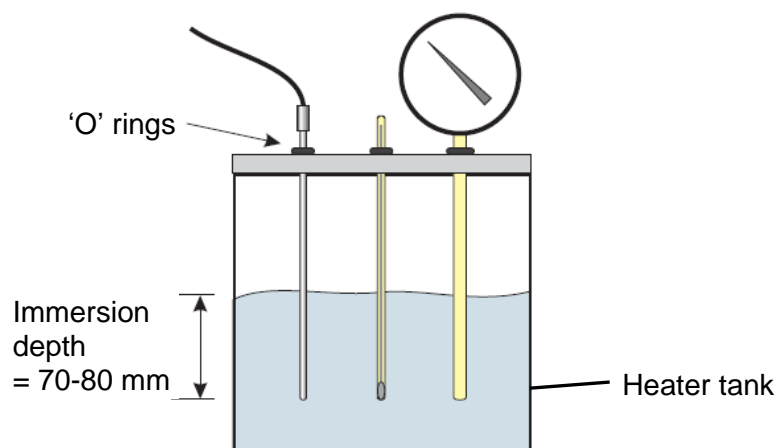

Figure 1
7. Fit and adjust the black 'O' rings to each device that will be used. Adjust the 'O' ring so that each device is immersed in the heater tank water by between 70 mm and 80 mm as shown in Figure 1. If necessary, add more water to the Heater Tank.